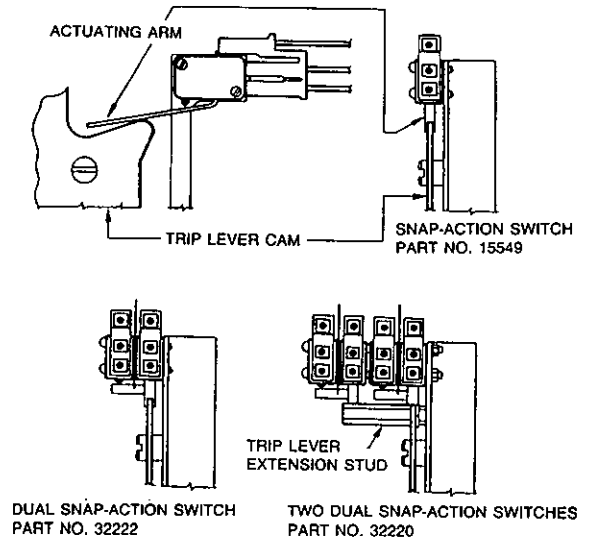

FIGURE 73
7. Raise switch actuating arm squarely over the cam surface of the trip lever. This will allow the trip lever, when actuated, to force the actuating arm "UP", thus reversing the normal condition of the switch. See Figure 73.